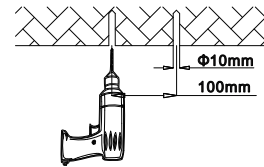

Figure3
1. Mark with a mark pen or sharp tool on the mounting surface and drill(Figure3).